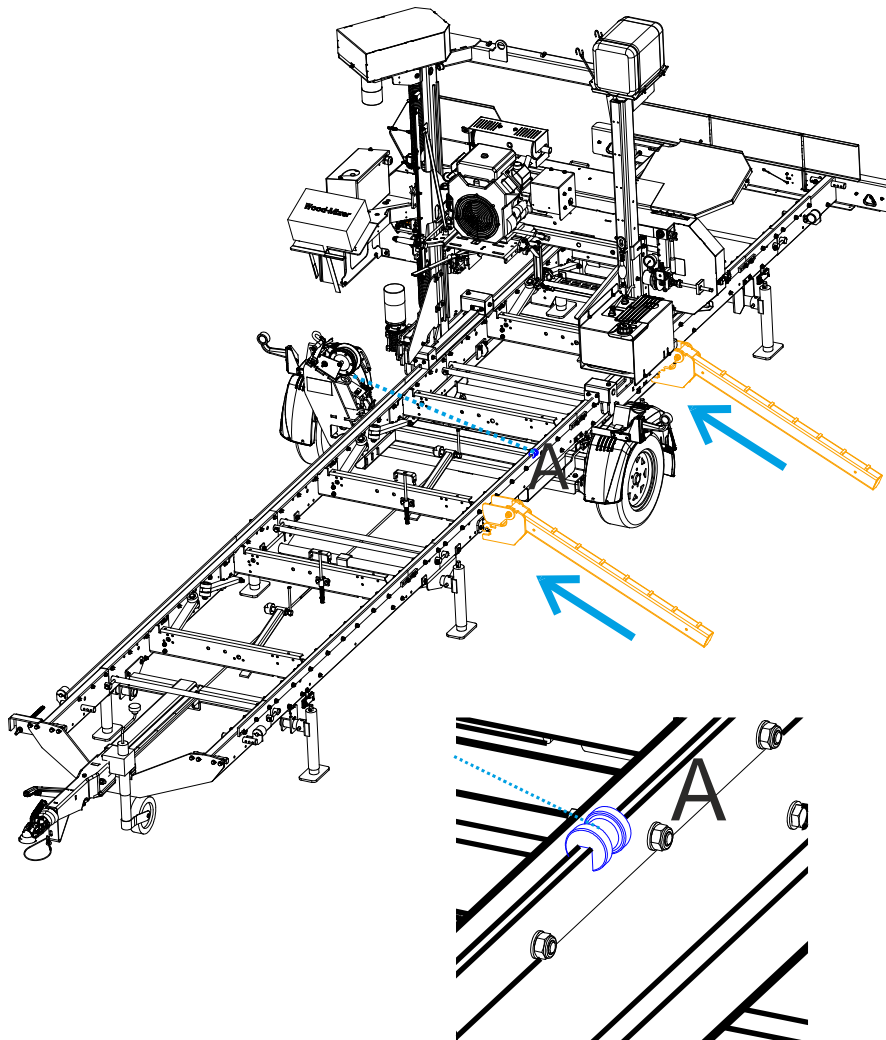

FIG. 4-37
See figure 4-37. Next, install loading ramp arms and the slide pad (A) - the rope of the winch should always go through the middle of the slide pad (as shown in the figure below).